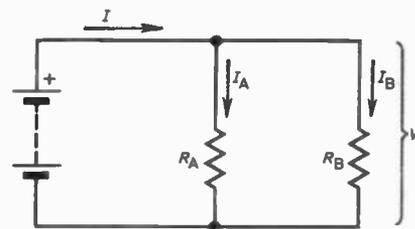

Fig. 3.3. The two resistors in the circuit shown here are in parallel.
There is an alternative way of connecting a second resistor in the circuit and this is shown in Fig. 3.3.
3.2. The following are sets of values for R_A , R_B , R_C and R_D in the bridge circuit of Fig. 3.3. Which will form a balanced circuit: